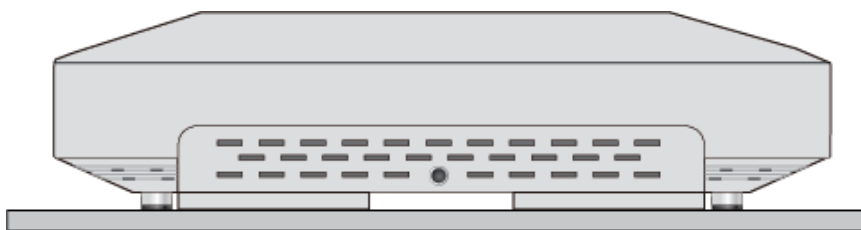

Figure 10. Device Orientations on a Ceiling, Wall, or Table
- ❑ Refer to Figure 10 on page 42 for approved orientations of the wireless access point on a table, wall, or ceiling.
1. Choose the location and orientation for the access point on the wall or ceiling. Refer to Figure 10 on page 42.